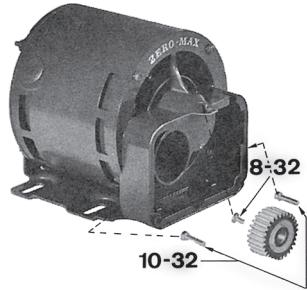

FIG. 1
**STEP I** To properly assemble a ZERO-MAX MOTOR POWER BLOCK to a Zero-Max DRIVE POWER BLOCK, follow these instructions carefully. When unpacking the motor from its shipping carton, be sure all parts are included: 1 – motor; 1 – nylon gear; 2 – 10-32 machine screws; and 1 – 8-32 machine screw. Inspect for any apparent shipping damage. (See Fig. 1)
INSPECT AND CHECK TO SEE ALL PARTS ARE INCLUDED (SEE FIG. 1)